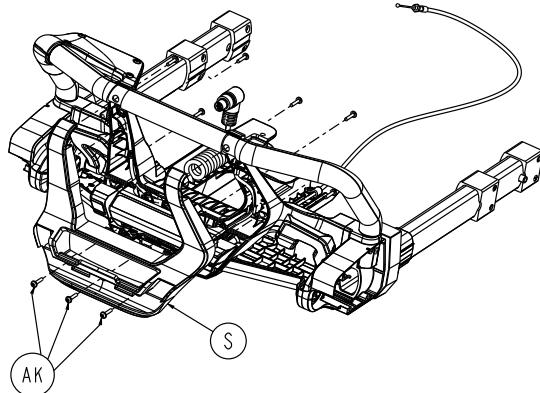

Figure 75 – Remove the foot end enclosure
9. Using a T20 Torx driver, remove the three round washer head tapping screws (AK) from the foot end enclosure (S) (Figure 75). Remove the front foot end housing. Save all parts.